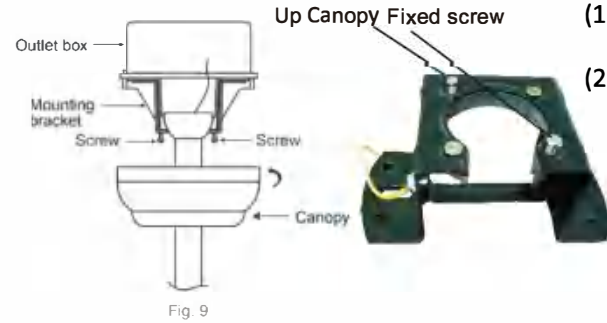

Fig. 9
(2) Rotate the motor assemble until the "Check Tab" on the mounting bracket has dropped into the "Registration Slot" on the hanging ball and seat firmly (Fig.7 Fig.8 Fig. 9)